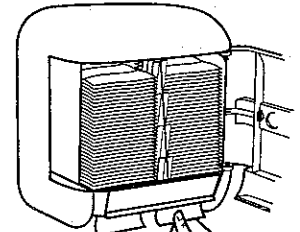

Figure 9
3. Pull bottom sheet to expose tail (Figure 9).